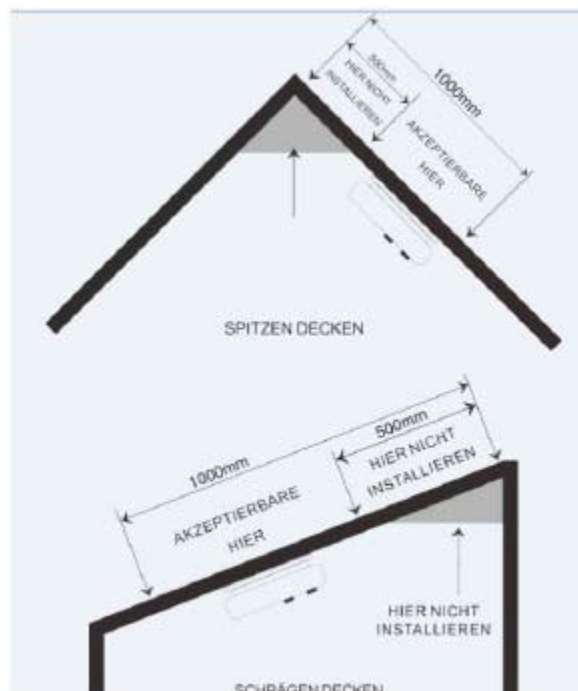

Figure 4
- In the case of round or pointed ceilings, install the smoke detector between 50 cm and 100 cm below the top of the ceiling (see Fig. 4, upper part). On sloping ceilings, whose height difference is more than 1 over a length of 6 m, mount the detector on the lower half of the ceiling of the room (see Fig. 4, lower part).